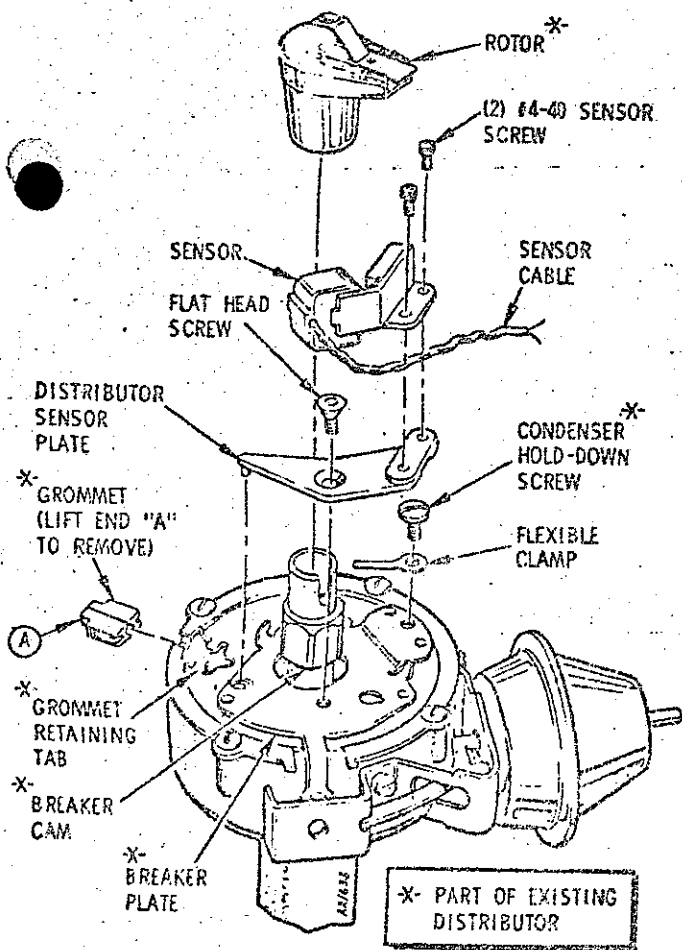

FIGURE 1
4. Securely mount distributor sensor plate to distributor breaker plate at existing breaker-point mounting hole with the 8-32 flat head screw from this kit. (Figure 1)